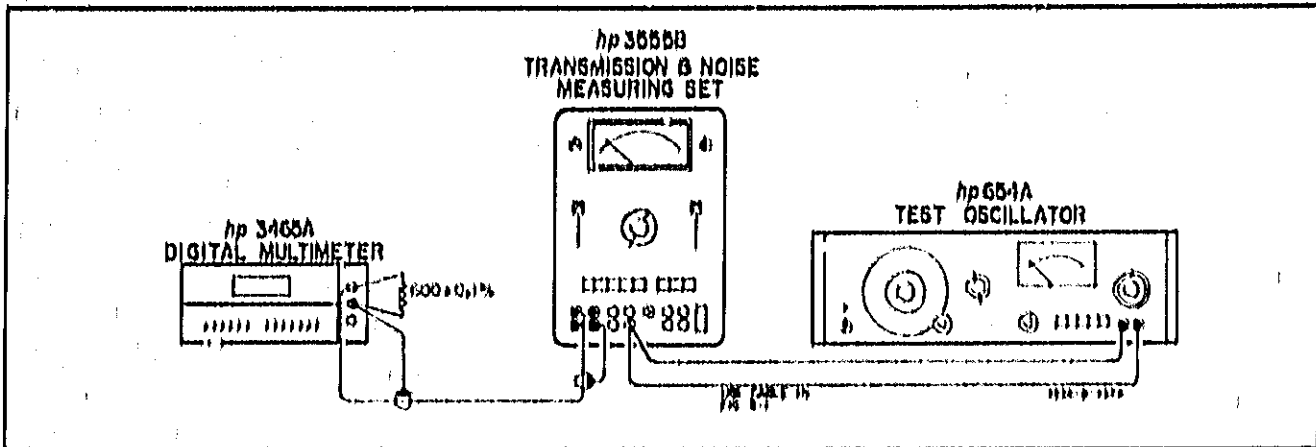

Figure 5-6. Bridge Loss Test Set-Up
- a. Connect the equipment as shown in Figure 5-6 and set the 3555B controls as follows: